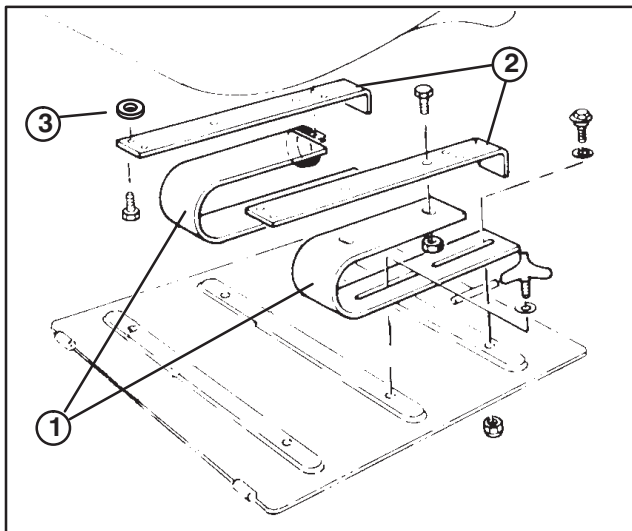

Figure 2
1. Attach "U" springs to seat mounting brackets using bolts and locknuts as shown in figure 2.
2. Secure seat mount assemblies to bottom of seat with (4) flange head capscrews and (4) spacers. (Fig. 2). Spacers to be positioned between seat and seat mount.
5. Mount seat and spring assembly to rear holes in seat mounting plate with two shoulder bolts, small I.D. flat washers and locknuts (Fig. 2 & 5).
3. Shoulder bolt with washer and locknut (2)
4. Adjustment handle (2)
6. Secure front slot of seat springs to traction unit front mounting holes with adjustment handles and flat washers (Fig. 2 & 5).